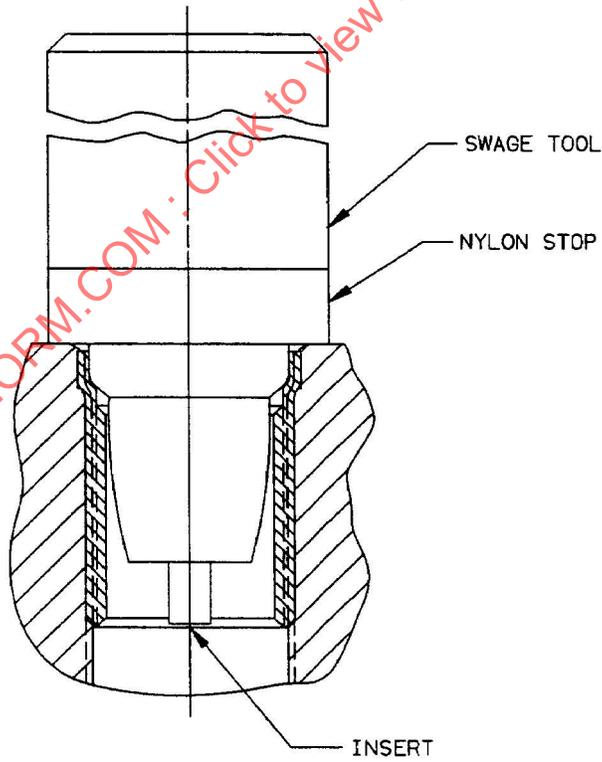

FIGURE 2
- 5.3 Position the swage tool into insert and apply a downward force sufficient to bottom the nylon stop against the parent material as shown in Figure 2. The insert should now be correctly swaged and locked.